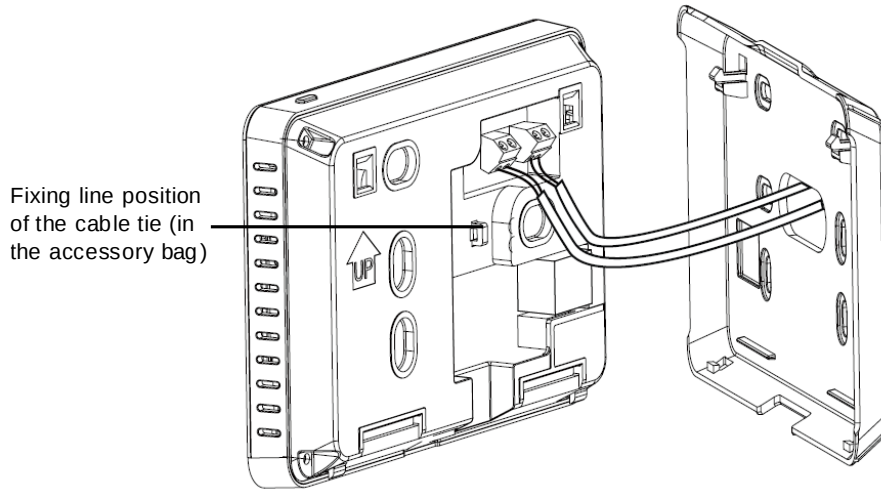

Figure 4 Central controller wiring diagram and cable tie fixing hole
3.1.3 This product adopts a concealed installation mode. The communication cable and power cord are fixed to the positions shown in Figure 4 using cable ties.